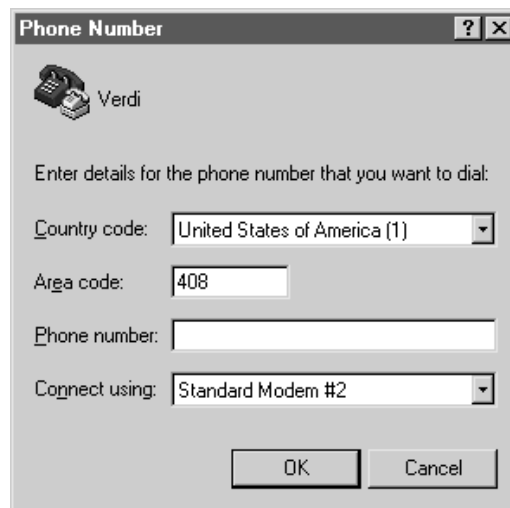

Figure 4.1-2. Hyper Terminal Phone Number Dialog Box
- a. If a modem is installed in (or connected to) the computer, the dialog box illustrated in Figure 4.1-2 will be